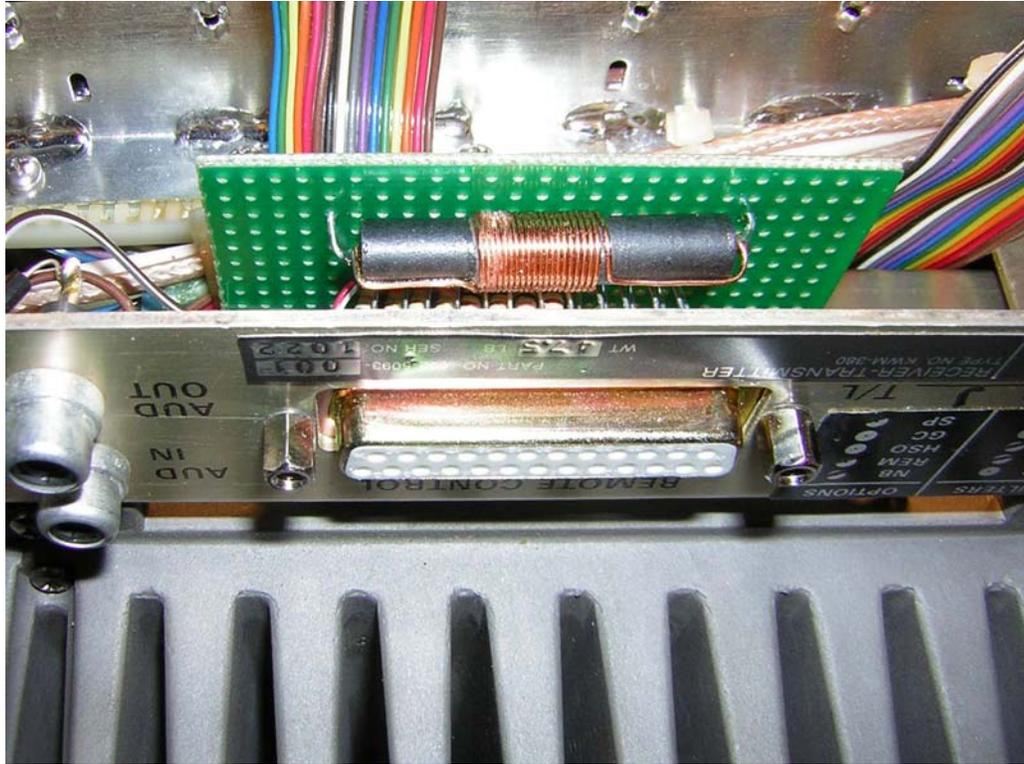

Figure 5. Mounted board.
5. Install the connector on the rear of the transceiver. Refer to figure 5.